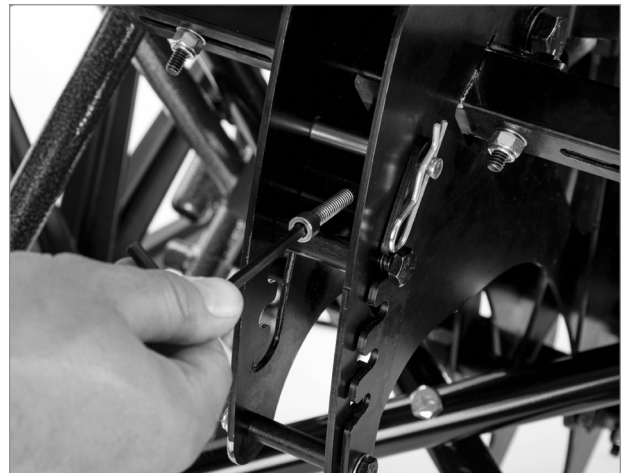

Figure 24
- b. Adjust seat collapse force by using a 3/16 inch hex wrench to turn the counterbalance adjustment screw to the desired position. The screw may be set at any position, as desired. *(figure 24)*